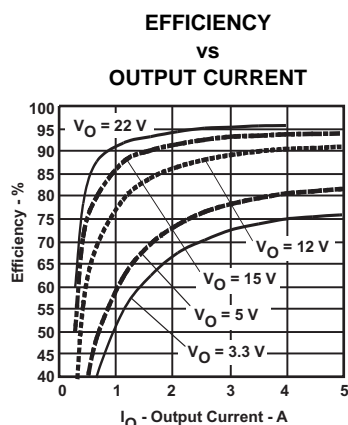
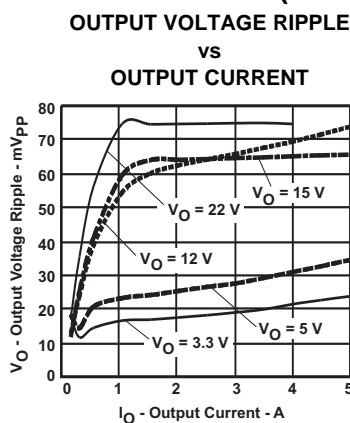
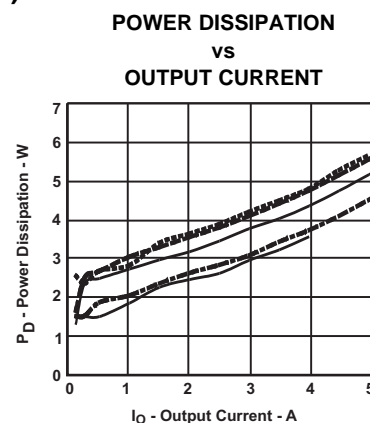

Figure 17.
Figure 18.
Figure 19.
- (1) The electrical characteristic data has been developed from actual products tested at 25°C. This data is considered typical for the converter. Applies to Figure 17, Figure 18, and Figure 19.